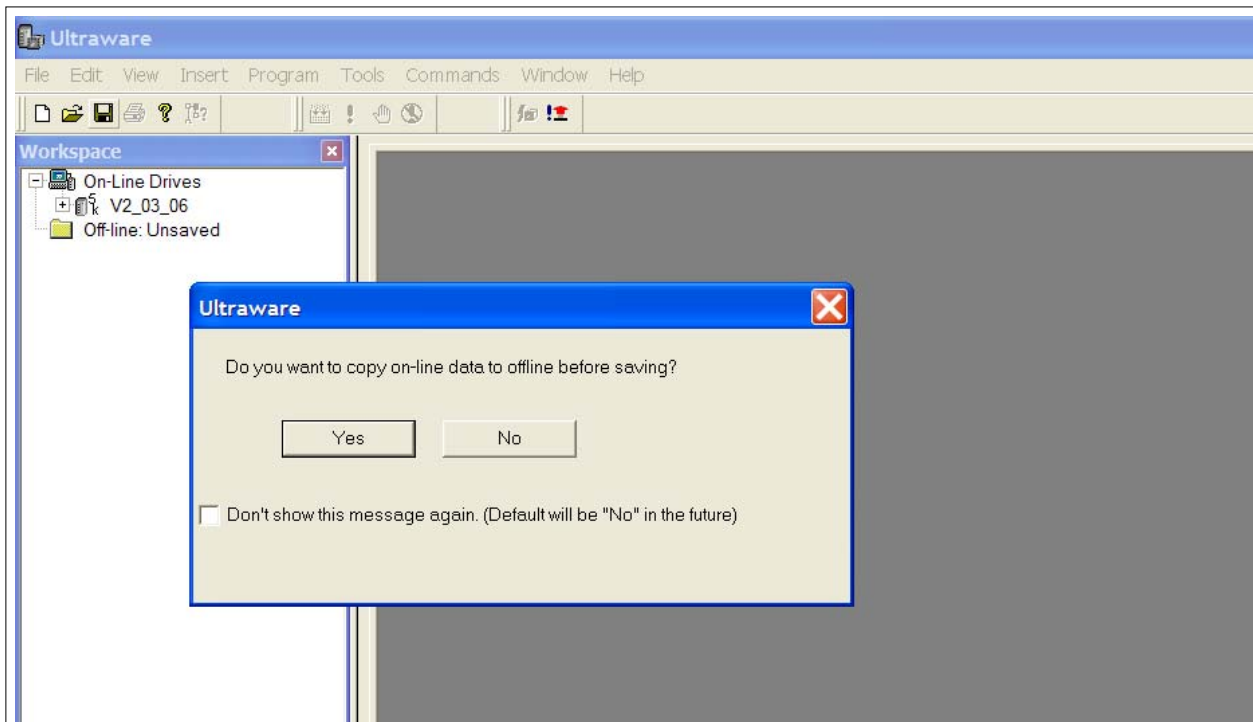

Figure 5-10
- Step 7. A confirmation window will pop up. (Figure 5-10)